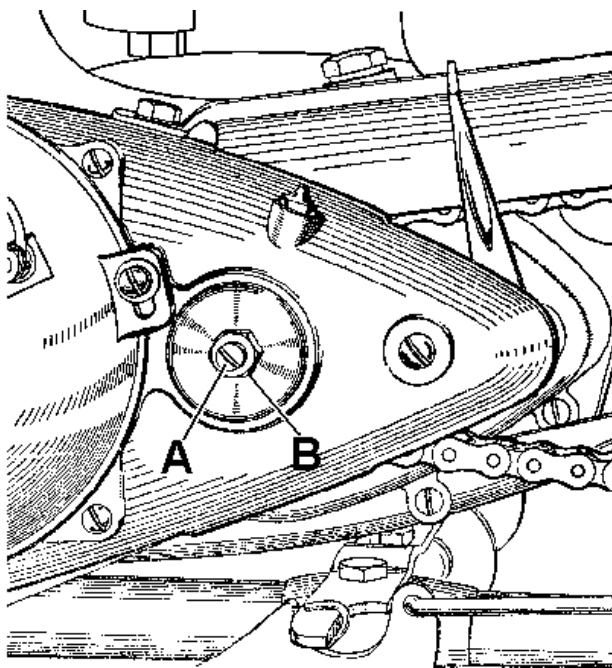

Fig. D21.—Clutch control adjustment
The clutch adjustment will be found at the left-hand end of the gearbox mainshaft (Fig. D21) and it consists of an adjusting pin (A) screwed into the clutch withdrawal quick thread sleeve and a locknut (B) to secure it in position. This adjusting pin presses against the clutch withdrawal rod with a steel ball interposed. (On the model D.7. the adjuster is concealed underneath the pear shaped cover on the left-hand side of the engine.)